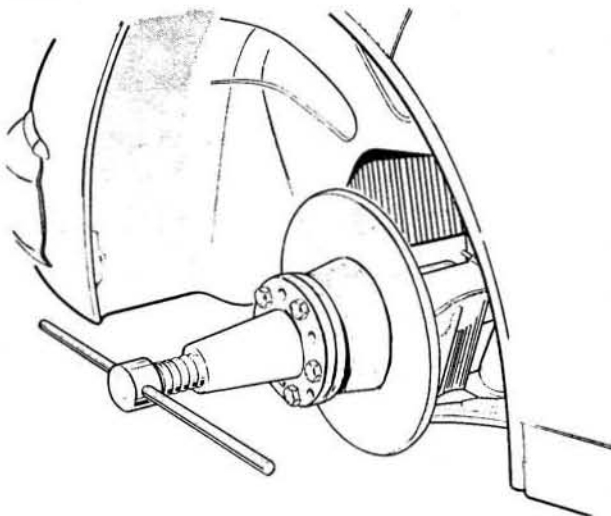

Fig.8.3. Withdrawing the rear hub
- 7 Remove each hub using a suitable extractor, Fig.8.3, (see list of tools under Specifications). It is known that the hub may prove to be extremely difficult to remove and if you cannot shift it with the tools available to you we suggest that you seek expert help.